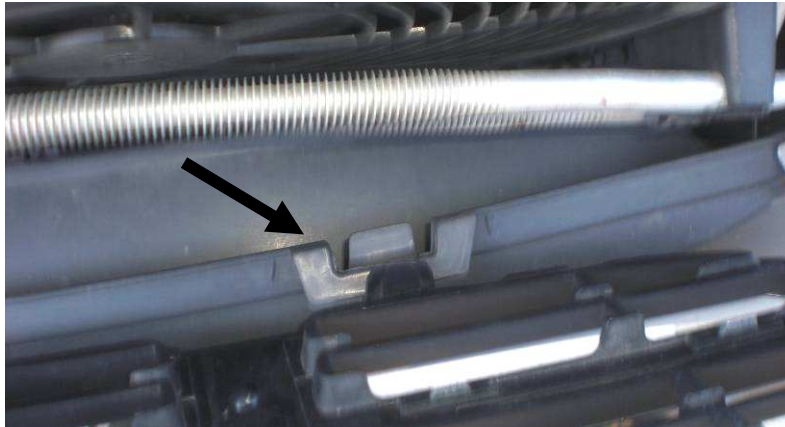

Figure 3: Lower grill retaining clips (top view)
- To release the three bottom clips holding the grill to the bumper cover as seen in figure 3, push down on the tab sticking out from the grill while pulling the grill gently towards you—these